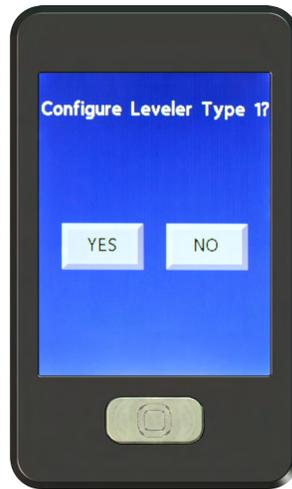

Fig.39
- B. After all the functions have been assigned a "title," the next screen will ask: "Configure Leveler Type 1?" (Fig. 39) and then "Configure Leveler Type 2?" (Fig. 40) will appear. If syncing the transmitter to a LCI Level Up, Ground Control® or Motorized Dual Sensor system, select "Yes" for Type 1 and "No" for Type 2. If you will not be syncing the transmitter to either of these leveling systems select "No" for both Type 1 and Type 2.